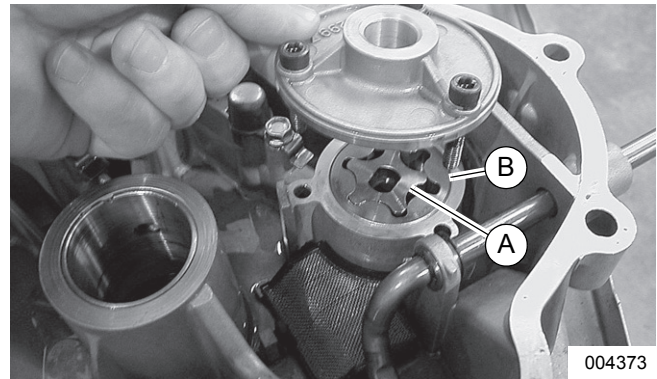

Figure 13-7. Install Oil Pump
1. See Figure 13-7. Lubricate inner and outer gerotor (A, B) and set in place.